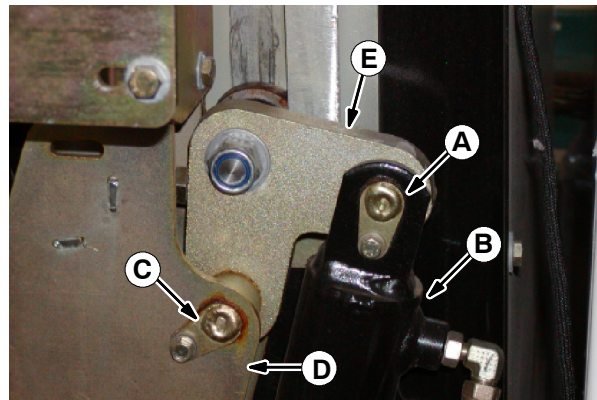

FIG. 1
2. Remove clevis pin (A) from the hydraulic cylinder (B) and upper link/eccentric shaft assembly (E). Refer to Fig. 1.
3. Remove clevis pin (C) from the conveyor support (D) and upper link/eccentric shaft assembly (E). Refer to Fig. 1.
5. Remove the upper link/eccentric shaft assembly (E) from the lift assembly. Refer to Fig. 1.